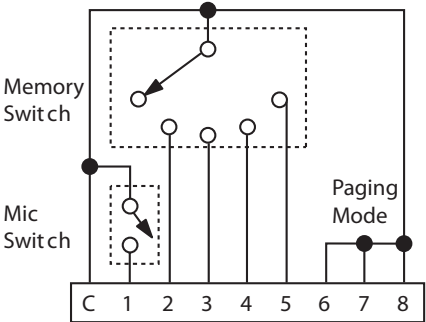

Figure 8. MRP Wiring
- ① **POWER input connector.** Use only an RS 1, or other Remote AC power supply approved by Rane. This unit is supplied with a remote power supply suitable for connection to this input jack. Consult the factory for a replacement or a substitute. This unit's power input is designed for an AC supply, delivering 18 volts, from a center-tapped transformer capable of supplying at least the 750 mA of current demanded by this product. Using any other type of supply may damage the unit and void the warranty.
- ② **Chassis ground point.** A #6-32 screw is supplied for chassis grounding purposes. Units with external power supplies such as this SRM 66 supply do not ground the chassis to earth through the line cord. This chassis connection is critical and in most installations, required by law. Many chassis ground this point to an amplifier chassis ground or directly to the grounding screw on a grounded AC outlet cover by means of a wire secured on both ends with star washers to guarantee proper contact. See the Chassis Grounding note on the next page.
- ③ **FP LOCK button.** When pressed *in*, locks out all front panel control except for Group Levels and Memory Recall. The SR 1L remotes (sold separately) are also able to control Group Levels with FP LOCK engaged. The user is able to view, but not edit, all Edit pages.
- ④ **MEMORY RECALL PORT (MRP).** This Port allows any remote switch to recall any of the system Memories. The first eight Memories recall with simple switch closure to a single pin. A "binary" wiring mode allows access to more complex Memory recall functions. See Figure 8 on page Manual-8. Complete programmability of the MRP is possible using the *Edit MRP Configuration* feature found in SRM Exchange software. See *DSC 1 & SRM Exchange software* on page Manual-9.
- ⑤ **REMOTE INTERFACE PORT (RIP).** This Port supports up to seven optional SR 1L "Smart" digital Remote controls (see page Manual-6). Each Remote may be assigned to adjust the Level of any one of the six SRM 66 Output Groups or the Master Group.
- ⑥ **OUTPUT GAIN switches.** These assist setting the optimal gain structure of the Output stage, depending on what the following device would like to see (or hear). Balanced signals usually require a +4 dBu setting (button *out*), and unbalanced signals usually require the -10 dBV setting (button *in*).
- ⑦ **OUTPUTS.** These balanced Euroblock connectors may be wired balanced or unbalanced. See page Manual-1 or the RaneNote, "Sound System Interconnection" later in this manual for assistance.
- ⑧ **INPUT GAIN switches.** These assist setting the optimal gain structure of the Input stage, depending on the level from the previous device. Balanced signals usually require a +4 dBu setting (button *out*), and unbalanced signals usually require the -10 dBV setting (button *in*). Use the MIX INPUT HEADROOM meters as a guide for determining GAIN switch position (see ① in the Front Panel Description).
- ⑨ **INPUTS.** These line-level balanced Euroblock connectors may be wired balanced or unbalanced. Microphones require a preamplifier (see the Rane MS 1B for a solution). See the next page and the RaneNote "Sound System Interconnection" elsewhere in this manual for assistance with various wiring options.
"Paging" mode provides installers an easy way to configure a system which uses a single switch (such as a push-to-talk mic switch) to toggle between two sequential Memories to change source levels. See Figure 8 and Table 1.